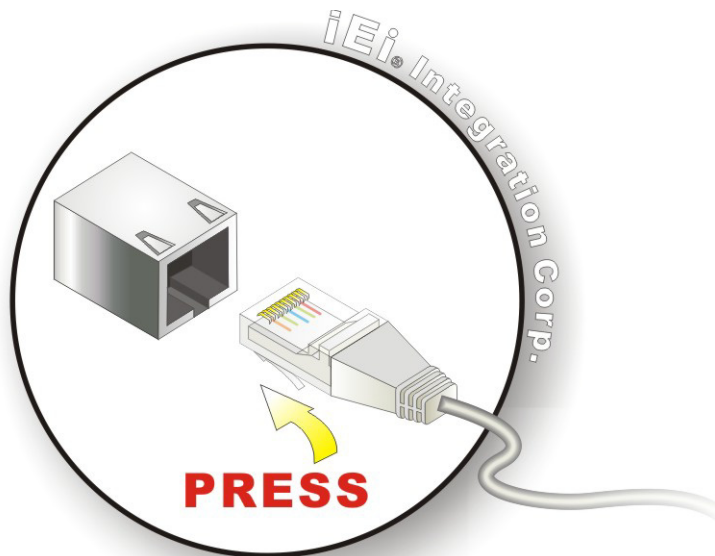

Figure 3-11: LAN Connection
Step 2: **Align the connectors.** Align the RJ-45 connector on the LAN cable with one of the RJ-45 connectors on the TANK-871-Q170 series. See **Figure 3-11**.